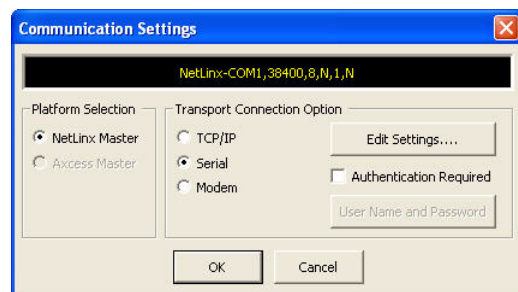

FIG. 49 Communication Settings dialog
2. Click **Communication Settings...** to confirm your settings are correct. This option invokes the *Communication Settings* dialog (FIG. 49).